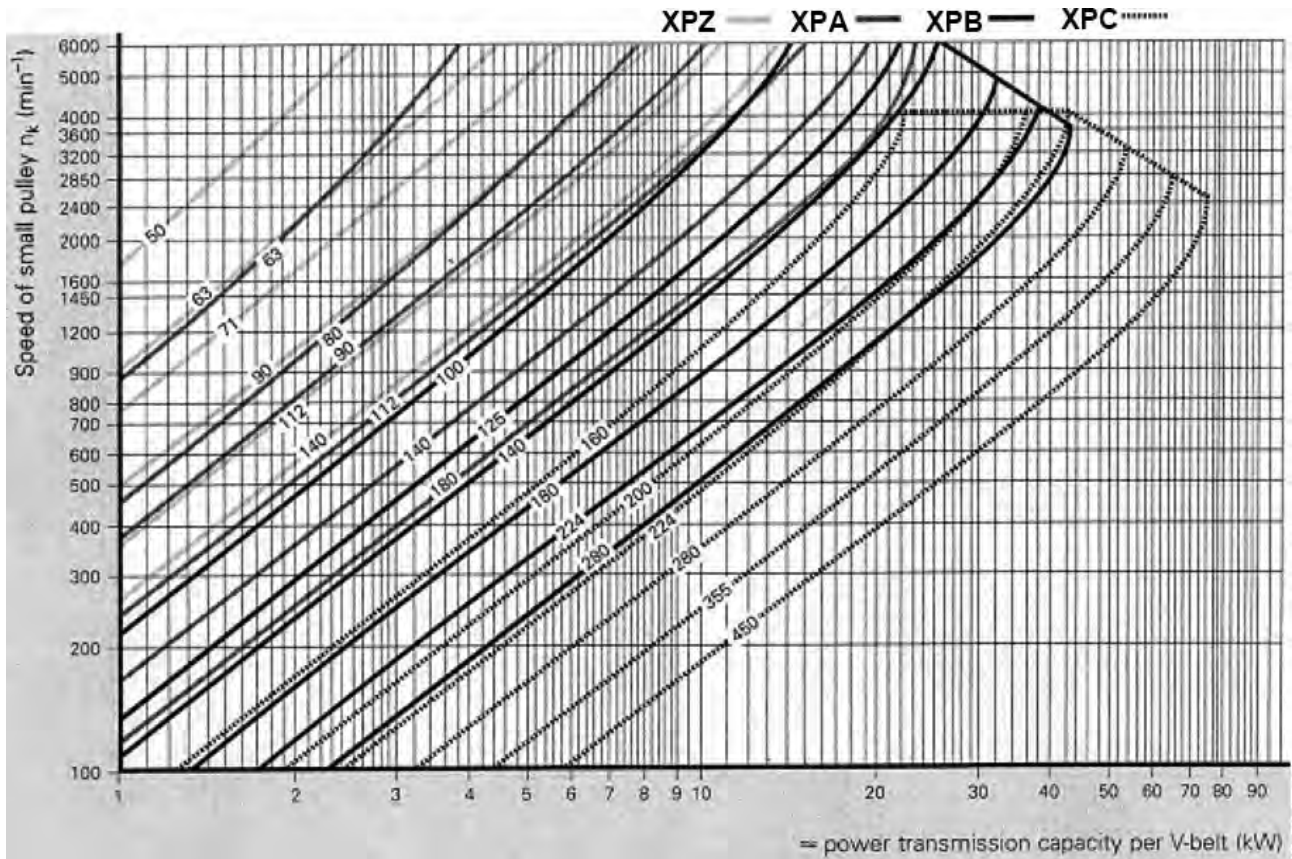
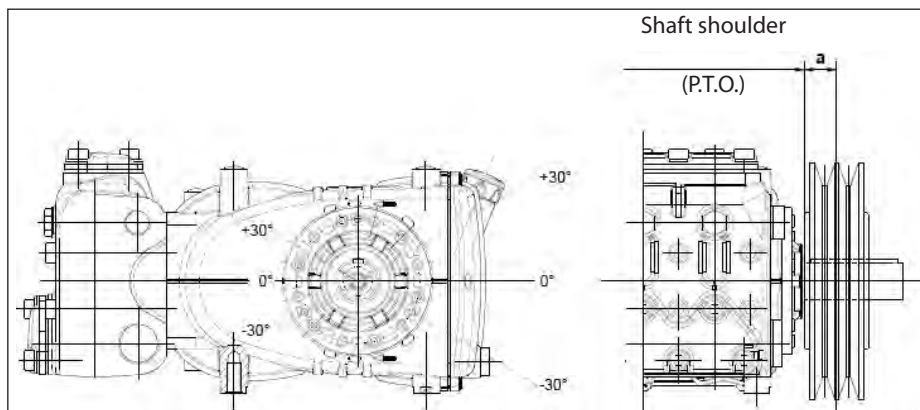

Fig. 7
Fig. 10
The pump can be controlled by a V-belt system. For this pump model, we recommend use of 2 XPB belts (16.5x13 serrated). Use an XPC profile only for long durations. Both the characteristics and transmissible power of each belt can be verified in the diagram in Fig. 7, in relation to the number of rpm normally declared by the manufacturer. Minimum duct pulley diameter (on pump shaft): ≥ 160 mm. The radial load on the shaft must not exceed 3000 N (value necessary for Layout definition). The transmission is considered adequate if the load is applied to a maximum distance $a=30$ mm from the shaft shoulder (P.T.O) as shown in Fig. 10.
- b) Use high performance belts – for example **XPB** instead of **SPB** – as a lower quantity of belts for the same transmitted power may be necessary and a consequent shorter resulting distance compared to the shaft shoulder (P.T.O) "a" of Fig. 10.
- e) Follow the direction of the belt pull as shown in Fig. 10 for other needs, contact our **Technical** or **Customer Service Departments**.